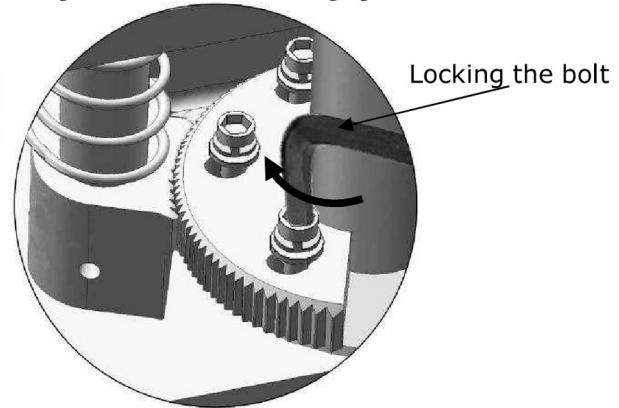

Fig. 35
4. Adjust moon gear and arm lock to make it to be meshed, then tighten the socket bolts of arm lock (**See Fig. 35**).